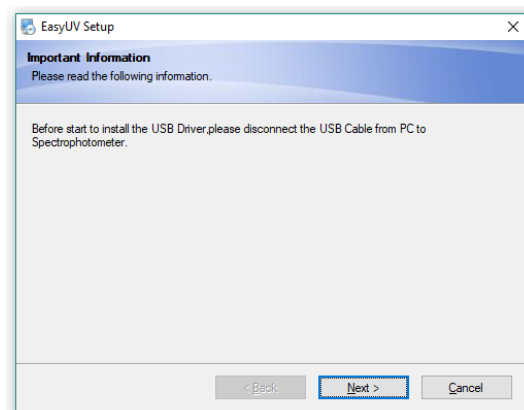

Fig. 2.2-4 Disconnect USB
- Be sure that the PC is not connected to the PC (Fig.2.2-4), click **Next**;